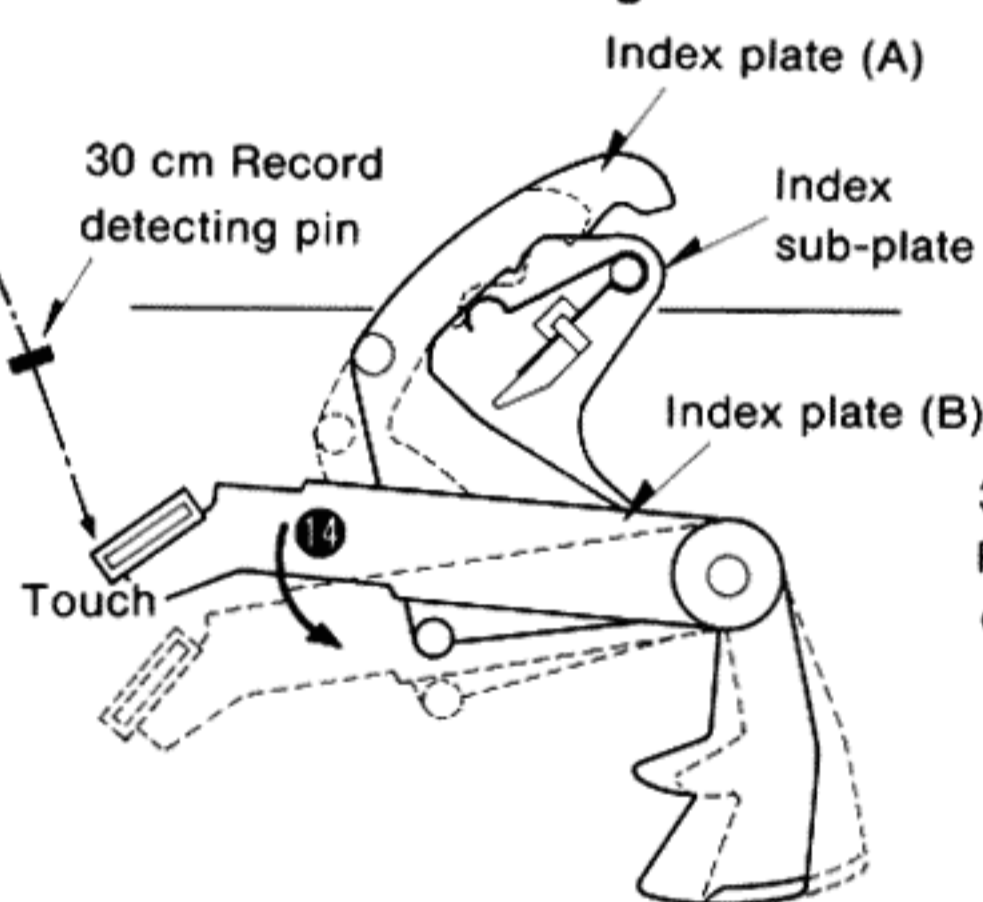

Fig. 4
| 6. | Record size detection | <ul style="list-style-type: none"> ★ Detection of 30 cm (12") record 1. The record size detecting plate pushes the reset lever attached to the turntable platter. 2. Only the 30 cm record detecting pin interlocked with the reset lever moves down. 3. The 30 cm record detecting pin touches index plate (B), then index plates (A) and (B) rotate. | 170° ~ 238° | Fig. 4 ●14 |
| | | <ul style="list-style-type: none"> ★ In case of no record 1. The record size detecting plate pushes the reset lever attached to the turntable platter. 2. Both 30 cm and 17 cm record detecting pins interlocked with the reset lever remain up. 3. The 30 cm and 17 cm record detecting pins do not touch index plate (B), so index plates (A) and (B) as well as index sub-plate remain stationary. | 170° ~ 238° | Fig. 4 |